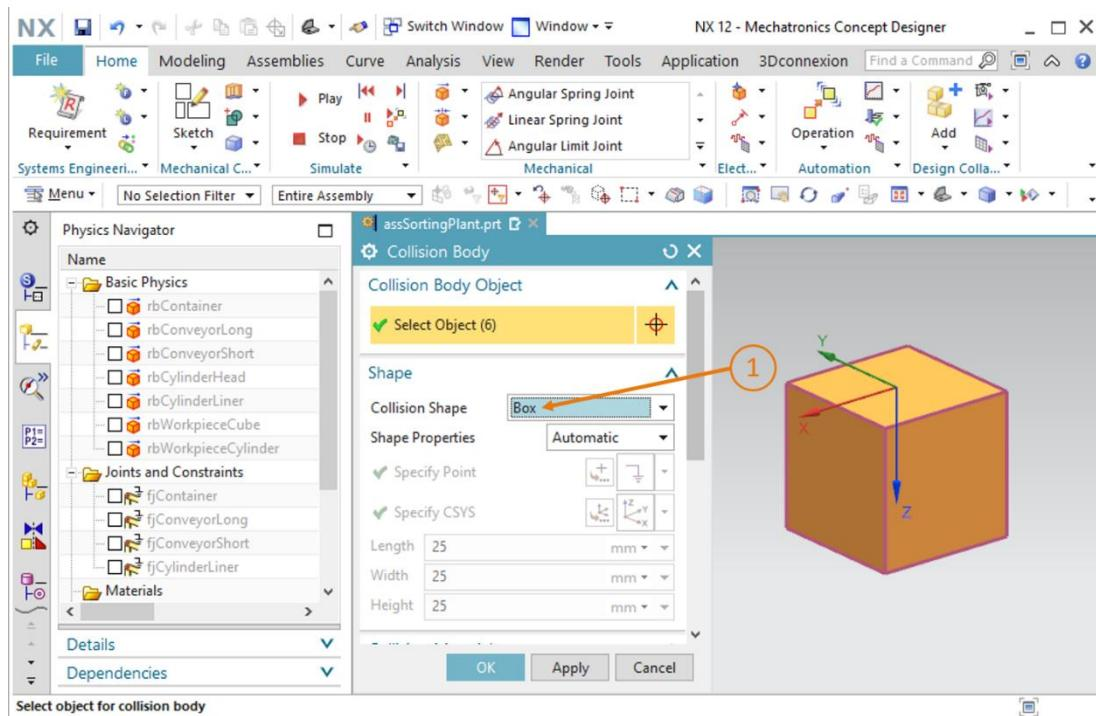

Figure 23: Creating the collision body for workpieceCube – Defining the collision shape
- Various collision shapes can be selected in the "Shape" group of the "Collision Body" window. You can find an explanation of these in Chapter 4.2.1. Select "Box" here as the collision shape for the cube, because MCD can simulate the collision body with this shape with only a minor loss in performance (see Figure 23, step 1).